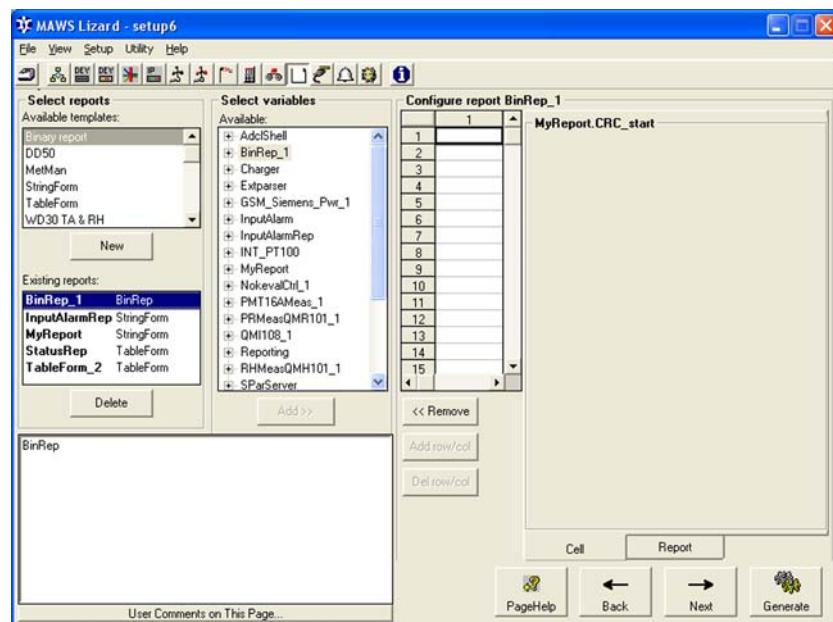

Figure 83 Reports View: Selecting Binary Report Form
1. In the **Reports** view, select *Binary report* from the **Available templates** list and click **New** to create a new report; see Figure 83 on page 170.